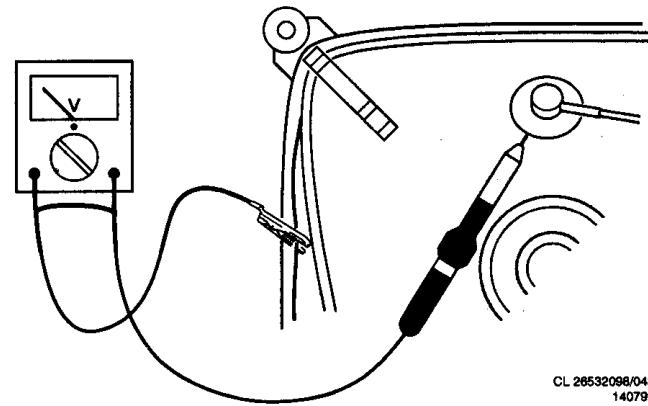

Fig. 3.1
- ##### 1. In order to prevent damage to IC's and transistors any flash-over of the EHT should be avoided. To prevent damage to the picture tube the method, indicated in Fig. 3.1, has to be applied to discharge the picture tube. Make use of an EHT probe and a universal meter (position DC-V). Discharge until the reading of the meter is 0V (after approx. 30s).